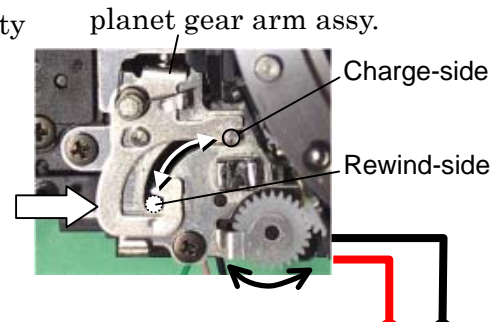

Fig.54
- 1) [CONF.] Make sure that the planet gear arm assy should be placed at charge side as shown in Fig.54.